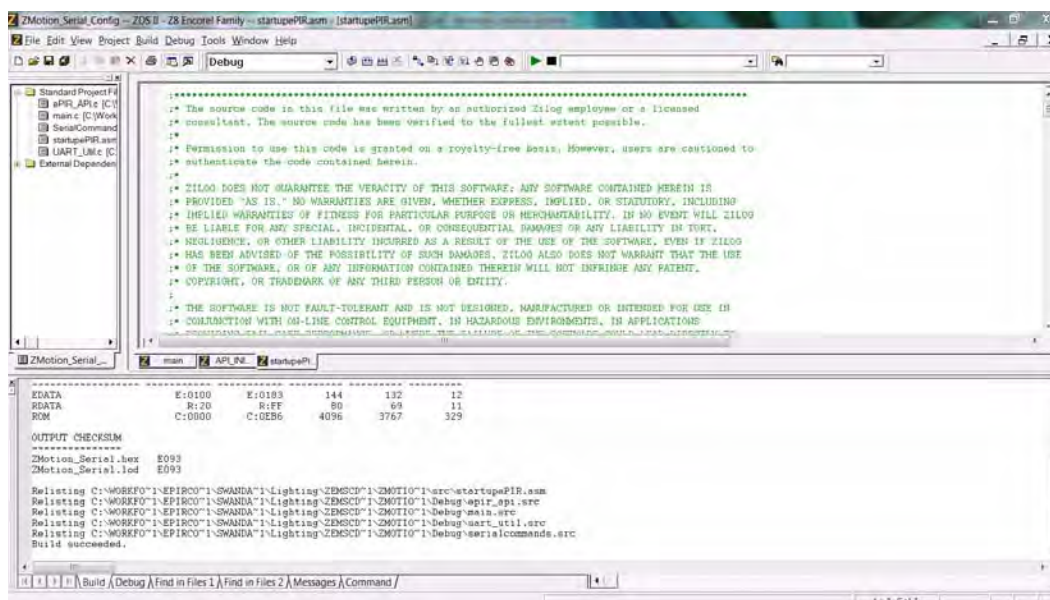
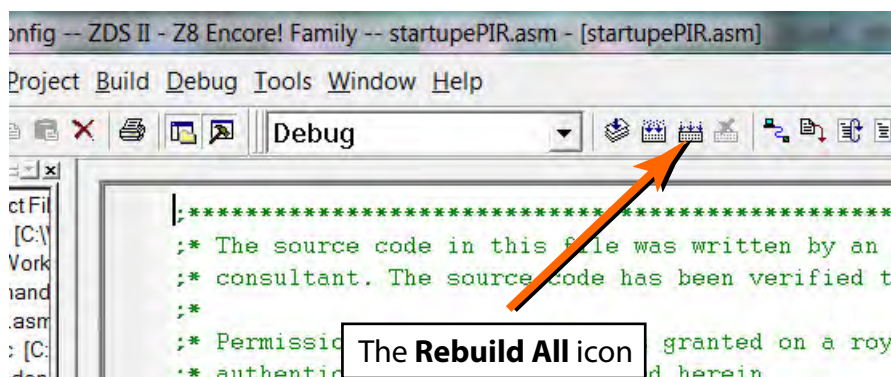

Figure 12. Building the ZMOTION_Serial_Config project in ZDSII
Figure 13. The Location of the Rebuild All Icon
3. Click the **Rebuild All** icon to build the project. The build output should not indicate any errors. If you receive errors, try reloading the projects from the installation software, and ensure that the folders are not set to **Read Only**. See Figure 12 for an example; Figure 13 indicates the location of the **Rebuild All** icon in the ZDSII menu bar.